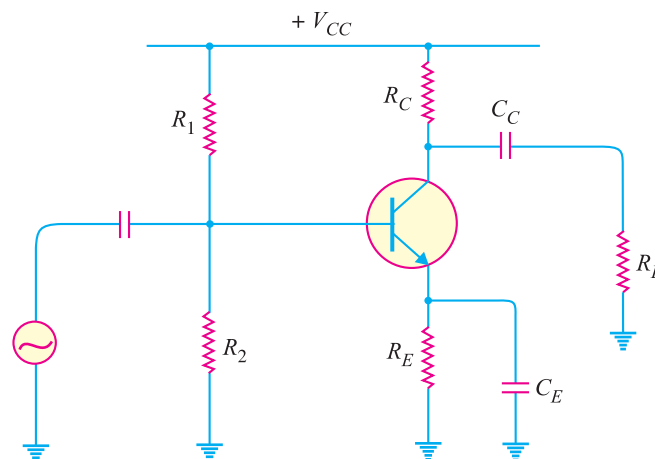

Fig. 10.46
3. Fig. 10.46 shows the transistor amplifier. If $R_C = 4\text{ k}\Omega$, $R_E = 5\text{ k}\Omega$ and $V_{CC} = 30\text{ V}$, draw the d.c. load line.
4. Find the operating point for Fig. 10.46, $V_{CC} = 30\text{ V}$, $R_1 = 20\text{ k}\Omega$, $R_2 = 20\text{ k}\Omega$, $R_C = 4\text{ k}\Omega$, $R_E = 5\text{ k}\Omega$. [13.2V, 1.85mA]
5. For the circuit shown in Fig. 10.46, find the voltage gain if $\beta = 100$, $R_C = 3\text{ k}\Omega$, $R_L = 6\text{ k}\Omega$ and $R_{in} = 2\text{ k}\Omega$. [100]
6. In the circuit shown in Fig. 10.46, $V_{CC} = 30\text{ V}$, $R_1 = 2\text{ k}\Omega$, $R_2 = 1\text{ k}\Omega$, $R_C = 2\text{ k}\Omega$, $R_L = 2\text{ k}\Omega$, $R_E = 1\text{ k}\Omega$. Draw the d.c. and a.c. load lines.